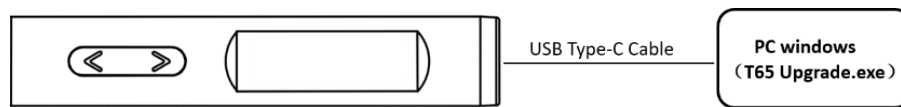

Figure 10-1 Connection
- ① The T90A is recommended for use at 65W, so the 140W and 100W options are not available.
- ② When auto voltage mode is active, power trim parameters will not be saved after shutdown.
- ③ Temperature trim method: in working condition, set the target temperature to 350°C, use the soldering iron thermometer to measure the actual temperature after the temperature is stable, record the error between the target temperature and the actual temperature (the value can be positive or negative), and then enter the menu Fill in the error in temp trim value.
Step 2: Power off the device, press and hold the B button, then use the USB Type-c cable to connect to the computer, power on the device, about 4 seconds, the screen displays "Upgrade...", then release the button. The operation is shown in Figure 10-1 below: